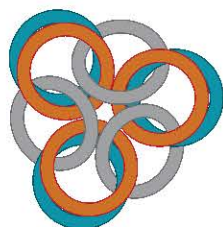

FIG. 2
3. Thread 1 open jump ring through the ends of the starter chain to form a closed triangle shape (**FIG. 2**).